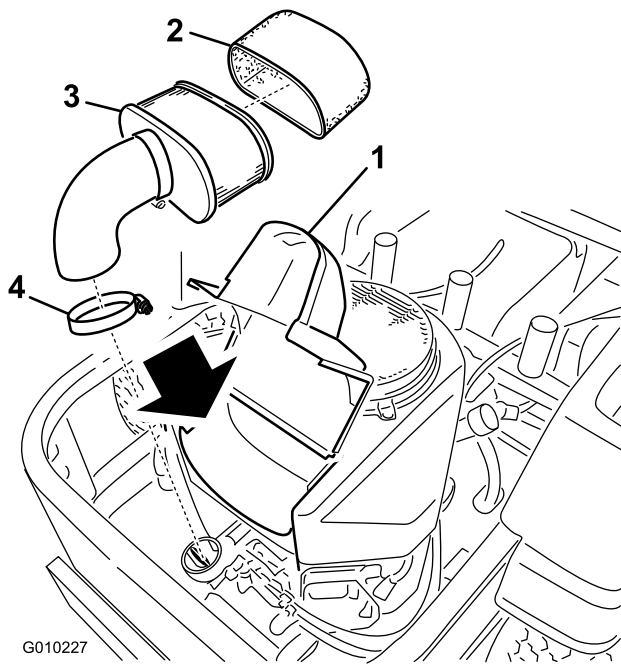

Figure 38
3. Clean around the air cleaner to prevent dirt from getting into the engine and causing damage. Loosen the two plastic knobs on the cover and remove the air cleaner cover (Figure 38).
4. Carefully remove the foam element from the paper element (Figure 38).
5. Unscrew the wing nuts and remove the paper element (Figure 38).